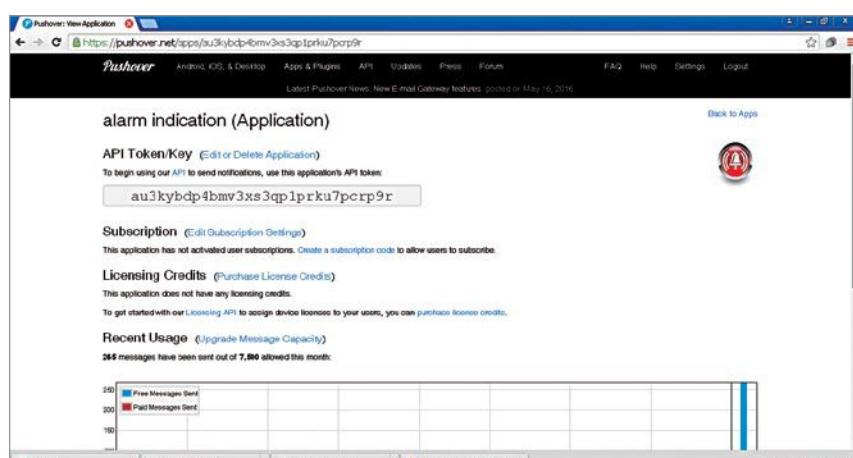

Fig. 4: Typical user key generated on Pushover app
3. Note down your user key (like, uyaa3u82r6rw853a2zhwj7afyxq4ba) as shown in Fig. 4. You will need it for your Python code.